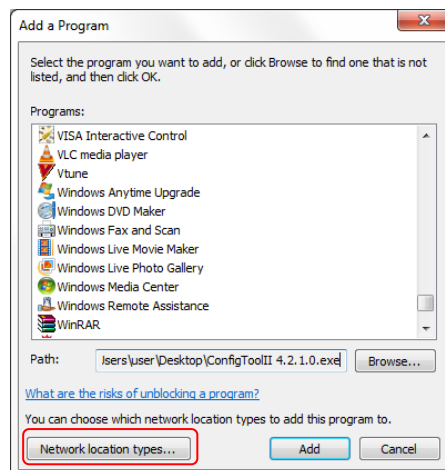

Figure 7 - Choose network location types
- Click the “Network location types...” button. Refer to Figure 7.